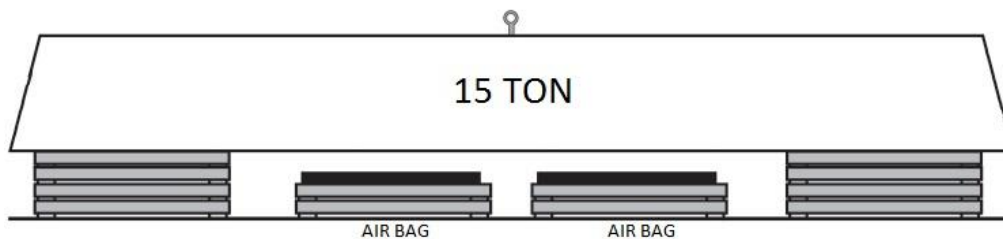

Figure 4 – Increased Lifting Weight Capacity
- Figure 4 (below) shows two air bags, placed side by side on cribbing foundations. The first air bag can lift 8 tons, the second can lift 12 tons. Individually, neither bag can lift the load of 15 tons. However, when side by side, and inflated together at the same time, they are able to lift 20 tons.